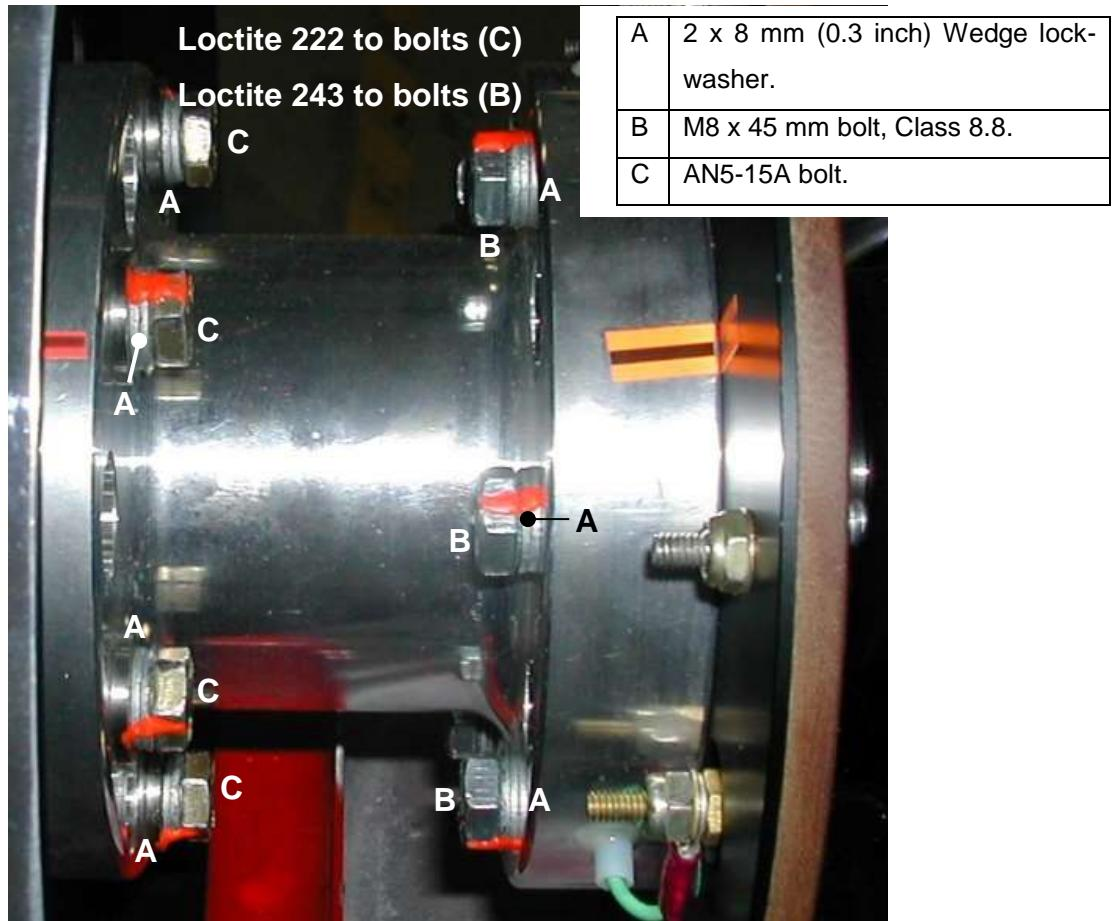

Figure 51: Airmaster propeller installation (with vacuum pump fitted).
- Observe washer placement (refer to Figure 51). Torque the bolts to the correct value (refer to paragraph 1.5.2). Torque in a star pattern / sequence as shown in Figure 48.